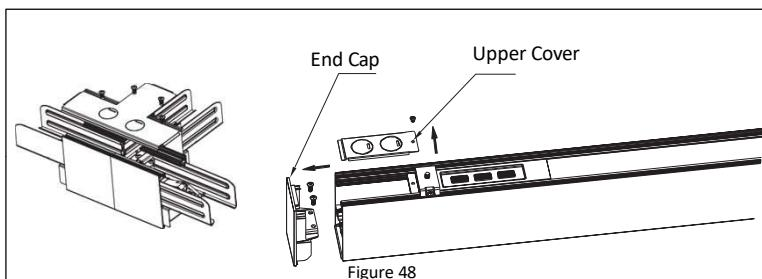

Figure 48
1. Remove the upper cover from both the "T" connector and the fixtures. Then remove the end cap from each fixture. See **Figure 48**.